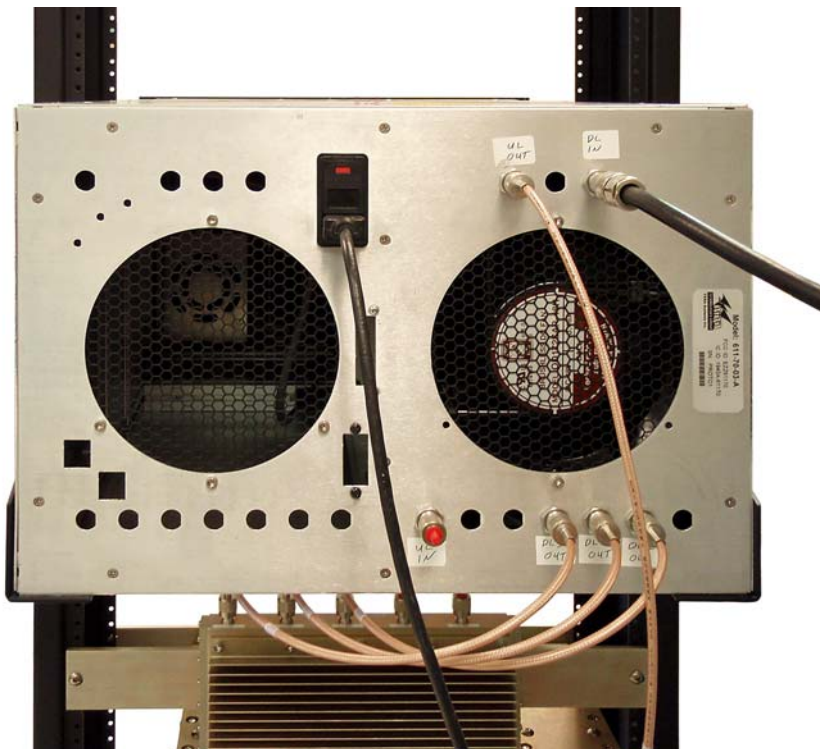

Figure 4B: Module housing rear view.
- Figure 4B: Module Housing rear View..... 5**